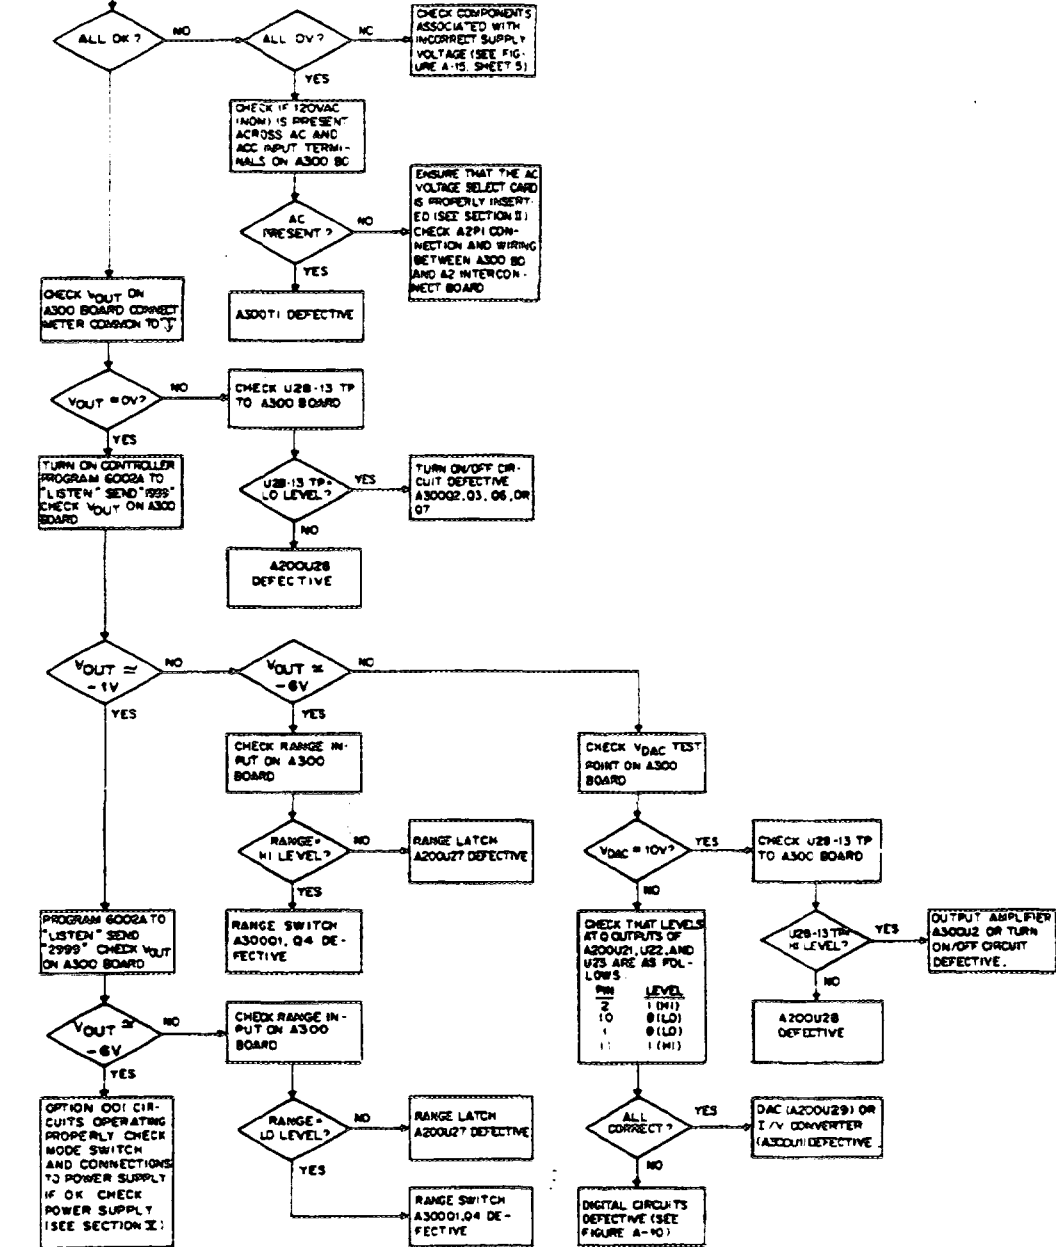
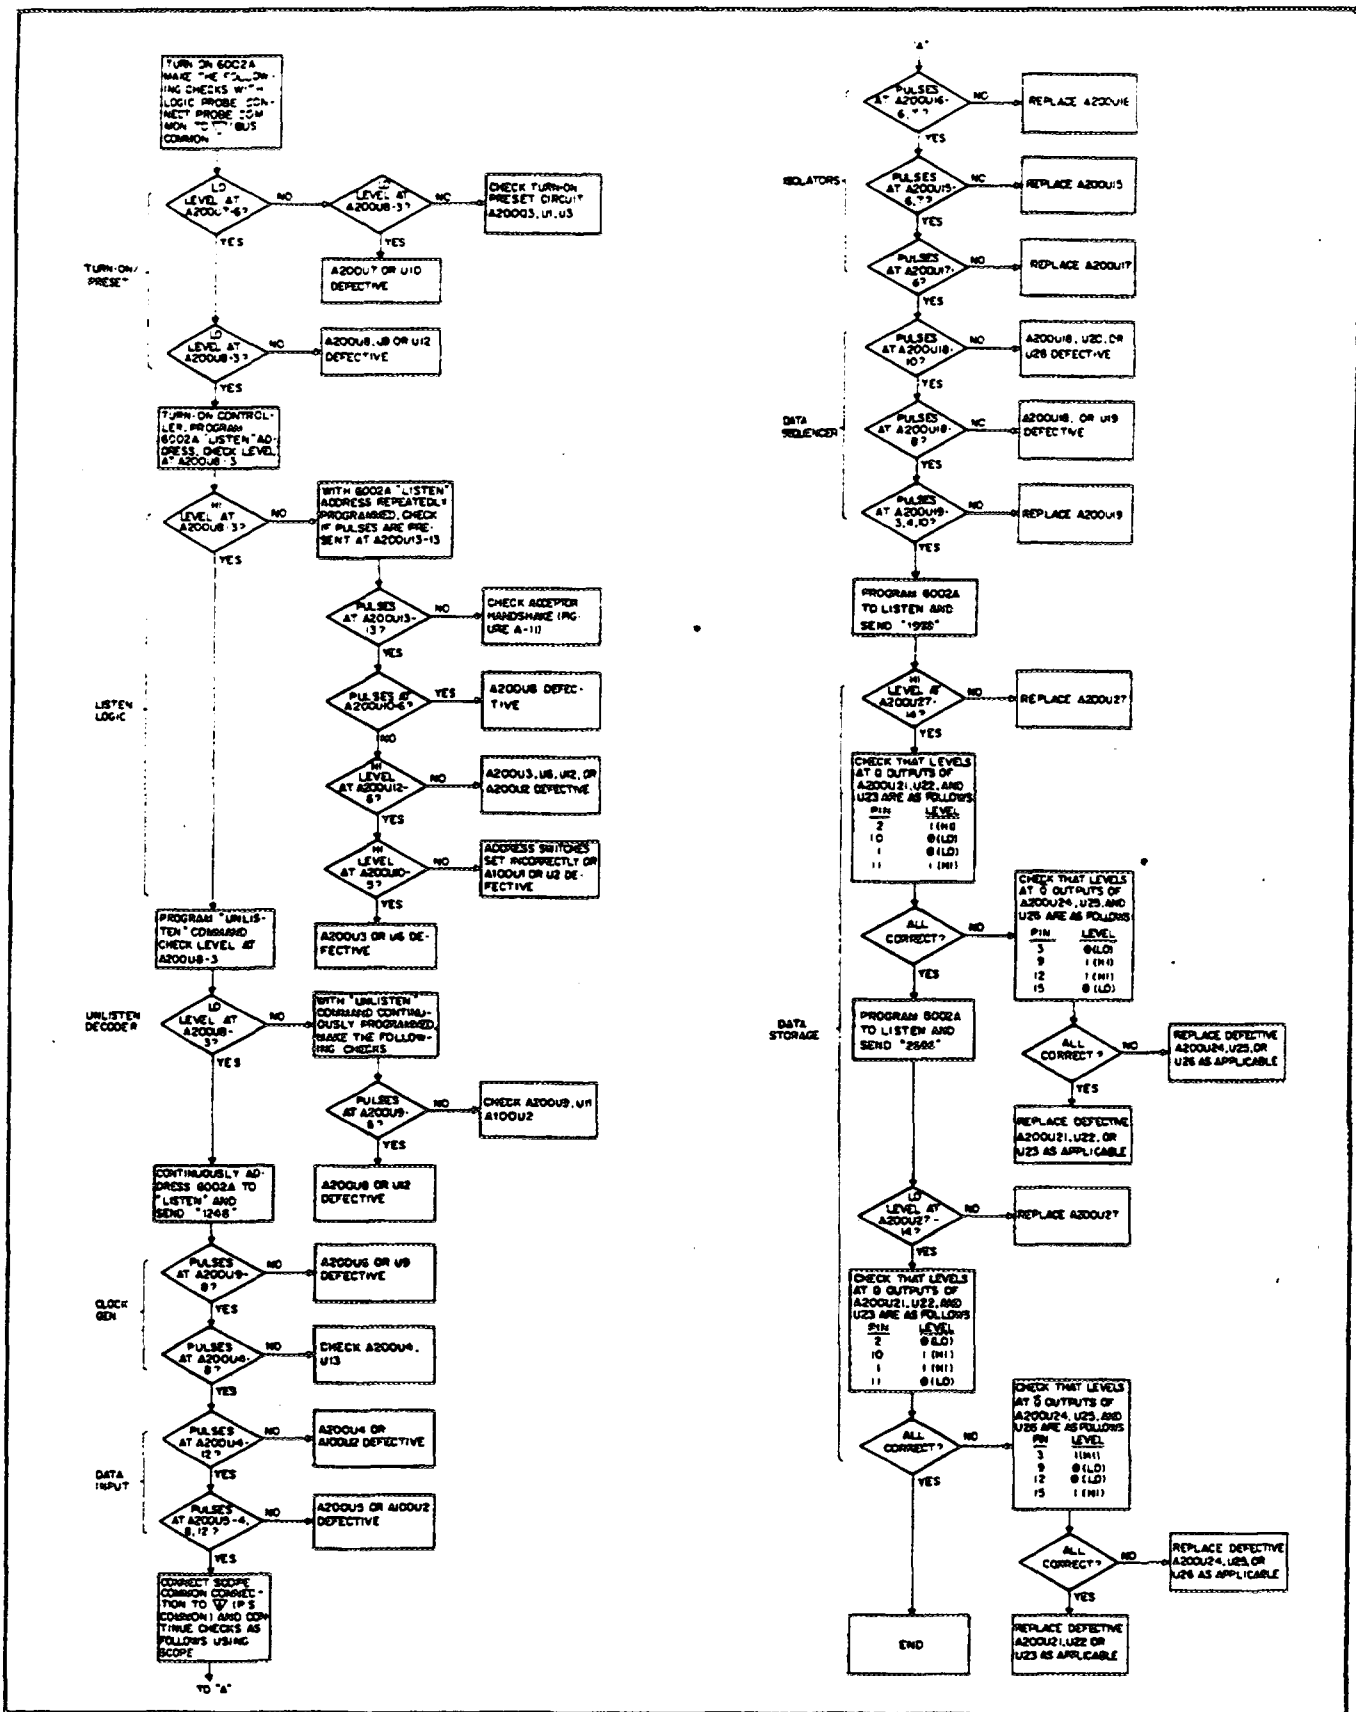

Figure A-9. Overall Troubleshooting Procedures, Flow Chart
Figure A-10. Digital Circuits Troubleshooting, Flow Chart
A-96 Overall Troubleshooting. The overall troubleshooting procedures given in Figure A-9 isolate a malfunction to the analog or digital sections of the Option 001 circuitry, or to the 6002A power supply. Separate troubleshooting flow charts are provided for the digital circuits in Figures A-10 and A-11. Complete troubleshooting procedures for the 6002A power supply are provided in Section V.
A-97 The procedures given in Figure A-9 check the Option 001 bias supply voltages first to ensure that these voltages are correct before continuing with the troubleshooting. If the supply voltages are correct, the procedures continue to check if a malfunction is present in the analog or digital portions of the Option 001 circuitry. If a malfunction is not detected, it is assumed that the mode switch, 6002A/Option 001 interconnections, or the 6002A power supply is defective.
The check points listed on Figure A-9 correspond with those on the schematics (Figure A-15, sheets 3 thru 5) and component location diagrams (Figures A-13 and A-14) for the A200 and A300 boards.
**A-98 Digital Circuits Troubleshooting.** The digital circuits troubleshooting procedures given in Figure A-10 isolate a malfunction to components on the A200 or the A100 board. Figure A-10 checks the digital circuits in the following sequence.
**A-99** The check points and functional circuit areas listed on Figure A-10 correspond with those on the schematics (Figure A-15, sheets 1 thru 3) and component location diagrams (Figures A-12 and A-13) for the A100 and A200 boards.
**A-110** Figures A-12 through A-14 illustrate the physical location and reference designations for the parts on Option 001 printed circuit boards A100, A200, and A300. The circuit boards are functionally separated and included on schematic diagram, Figure A-15 (sheets 1 through 5). The functional circuits and test points shown on the schematic coincide with those on the component location diagrams and troubleshooting flow charts (Figures A-9 through A-11).